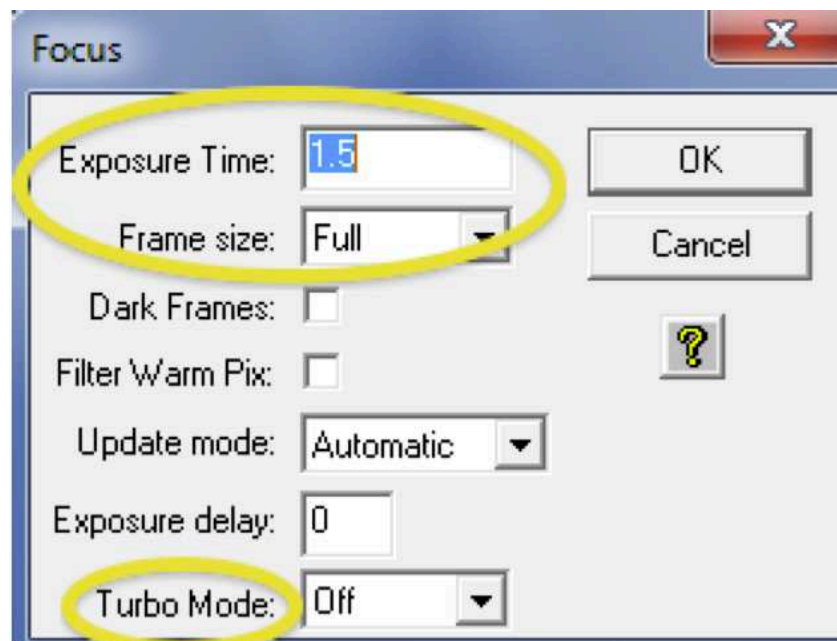

Figure 18: Focus panel with default values and user options indicated by circles.
- **other settings** do not change other settings but use default values given in *Fig. 18*.